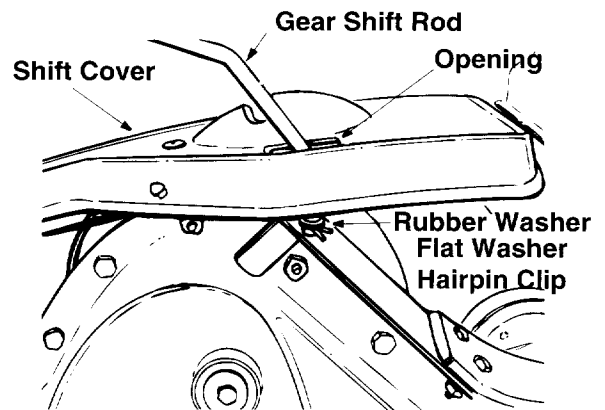

Figure 8
- Insert the end of the gear shift rod through the opening in the top of the shift cover, and into the shift bracket. See Figure 8. Secure with rubber washer first, then flat washer and hairpin clip.